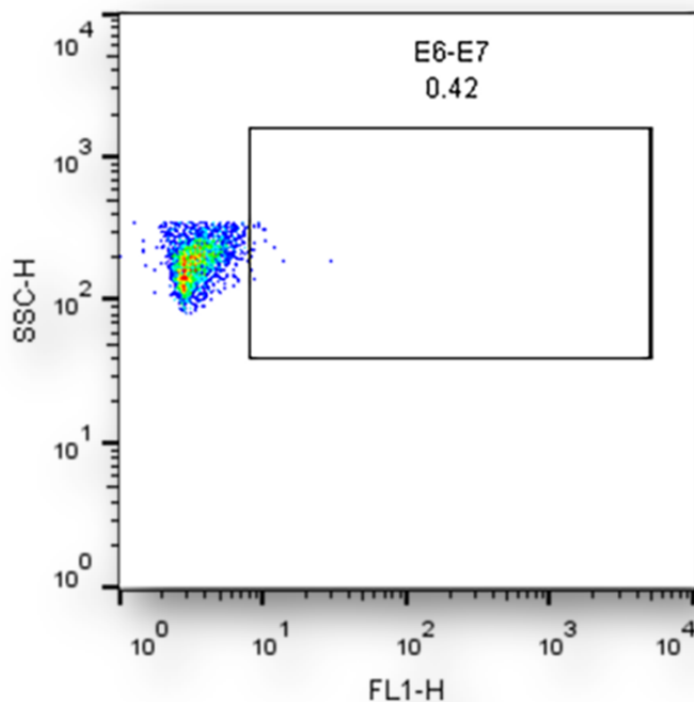

Figure 3. Gate for detection of E6/E7 overexpression in control cell populations.
- e. Create a new gate in the FITC plot to the right of the negative stained cell population labeled “E6/E7” (Figure 3).